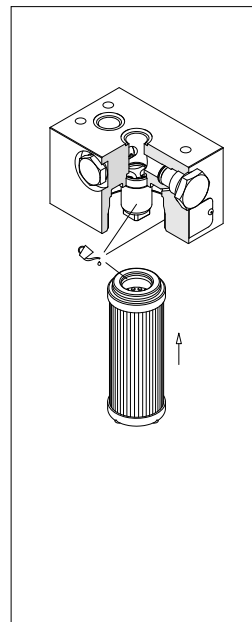

fig. 20
- (Fig. 20) Lubricate with the operating fluid the filter element O-ring, the housing tap and cavity, then fit the filter element on the tap. Pay attention not to damage the O-ring seal.